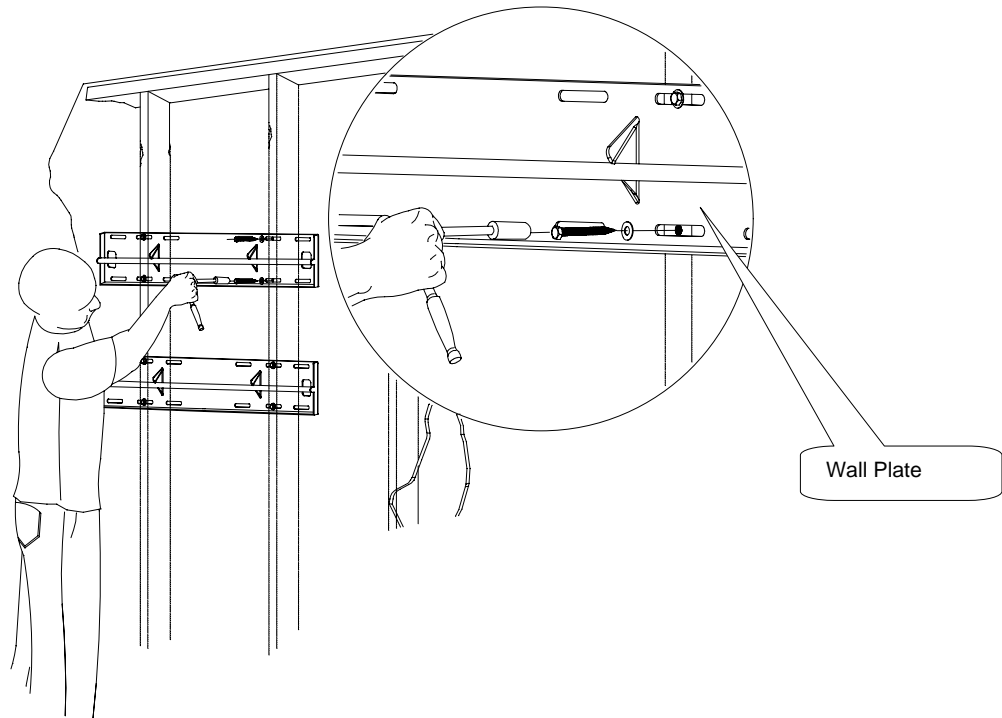

Figure 12
Level and secure the lower plate to the wall with the reference arrow facing up to the ceiling. Secure the plate using the four (4) 5/16" lag bolts and flat washers (supplied) – (Figure 12). Repeat Step 5 to secure the upper wall plate to the wall (Figure 12).